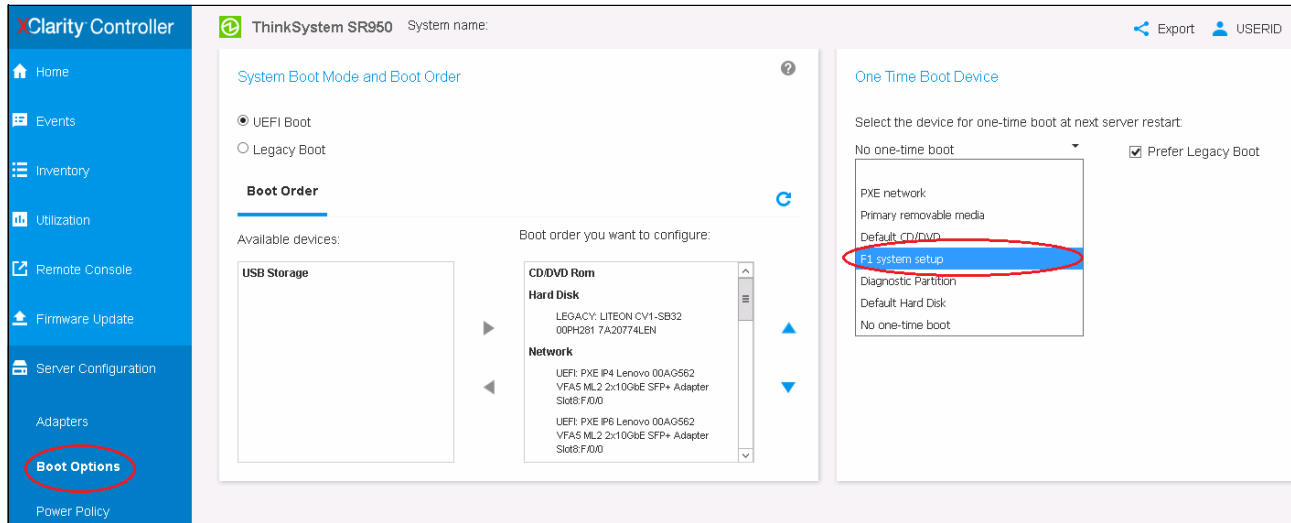

Figure 5-1 Boot option via XCC
- c. The XCC One Time Boot Device options are shown in Figure 5-1 on page 121.